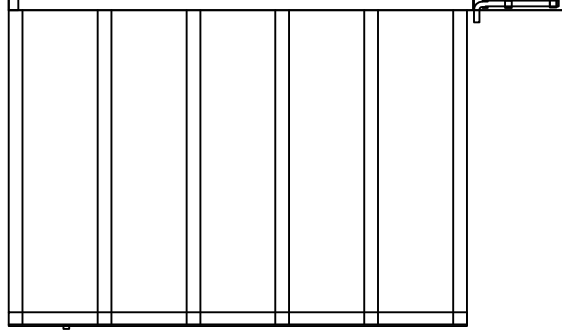

Figure 2 Parts Sketch
Begin by determining exact location of the four (4) corners of the building. Mark front edge and side-to-side width of assembly on ground. Drive alignment stakes into the ground outside of the markings, and draw alignment strings along both ends and sides of the building to the dimensions shown in Figure 2. The outline of the strings will represent the final location of the base flanges. The initial location of each Corner Base Flanges (5R & 5L) is critical to the alignment and fit of the frame components and cover.
Locate the Left Corner Base Flange and Right Corner Base Flange(5R&5L). Secure the base flanges with Stake Pegs (Part #23). Measurements shown in Figure 2 are to the center of the upright sockets on each Base Flange.